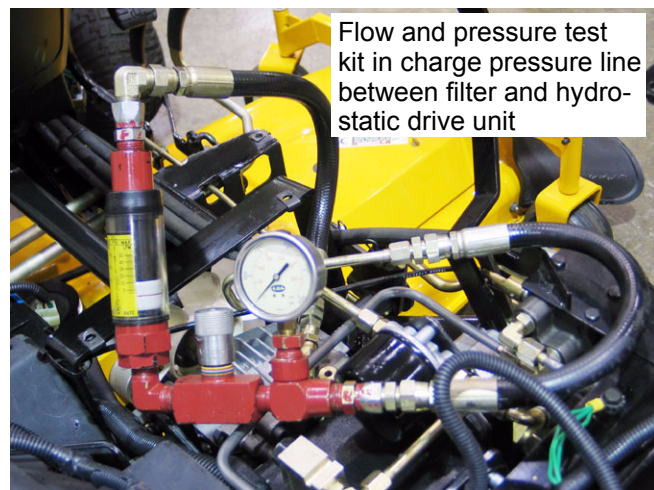

Figure 5.15
5.15. The presence of fluid flow from the auxiliary pump, via the steering unit can be confirmed by installing a flow meter in place of the tube between the filter and the top port on the hydrostatic drive. See Figure 5.15.